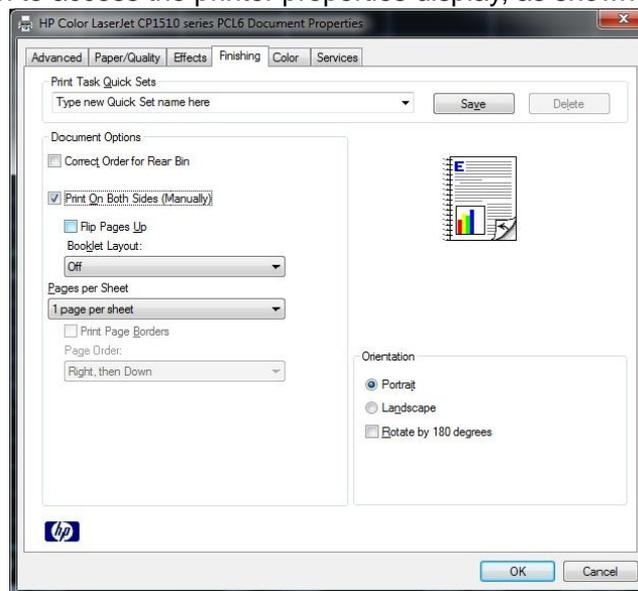

Fig. 3.22 Printer properties display
Step 2. Configure the printer. Select the appropriate printer. To customize the configuration, click the Properties button to access the printer properties display, as shown in Fig. 3.22.